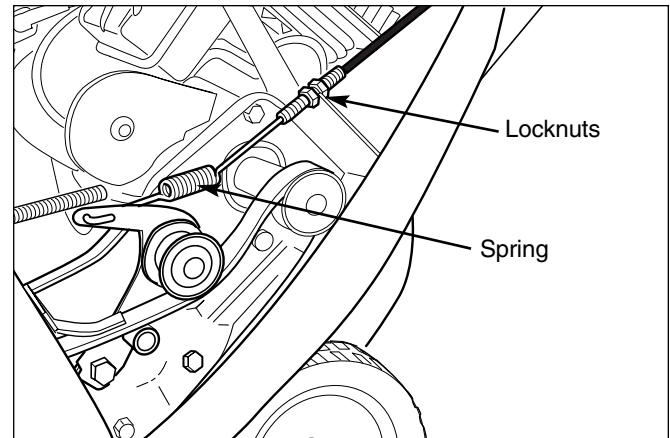

Figure 12. Auger Control Cable
2. Locate and loosen the lower locknut securing the auger control cable (shown in Figure 12).